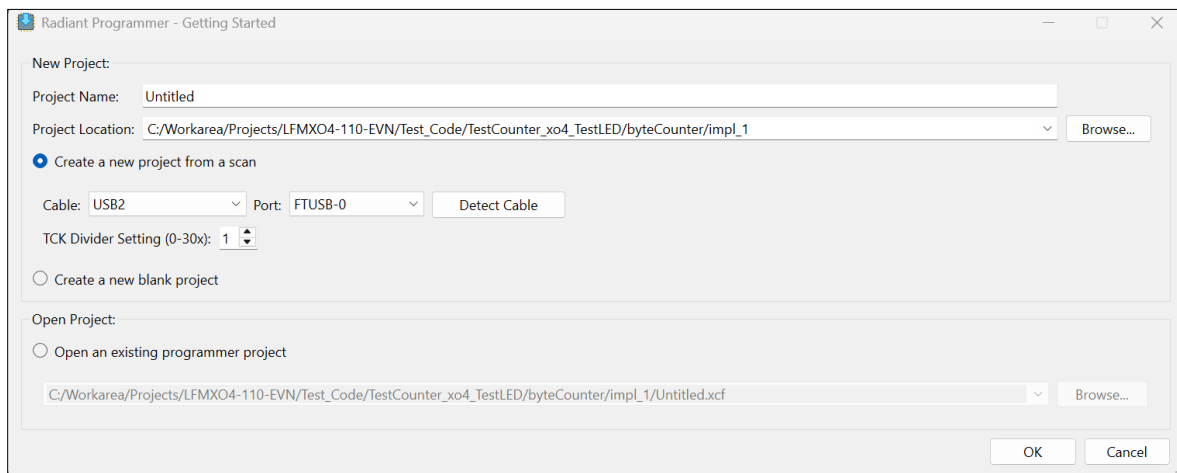
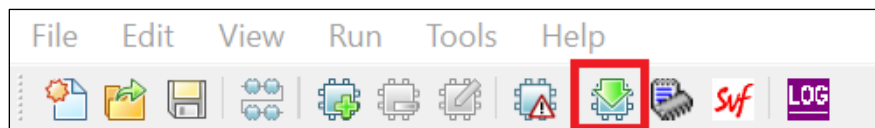

Figure 3.2. Starting Programmer
Figure 3.5. Program the device
3. Verify that the PC's USB hub detects the cable on Port 0, making it available for use with Lattice Radiant programming software. See Figure 3.2.
6. Press **OK** (see Figure 3.2), then click **Program Device** in the programmer to complete programming. See Figure 3.5.